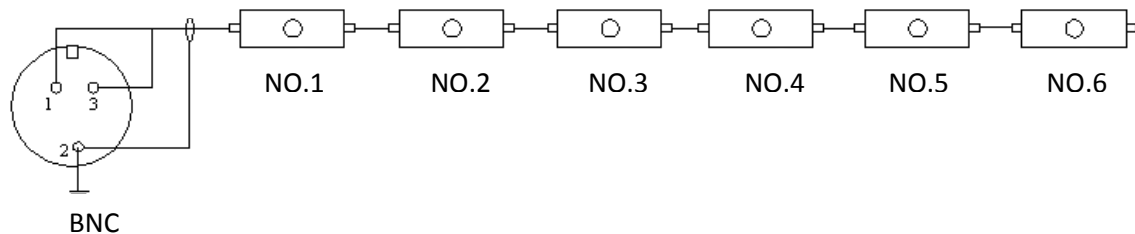

Figure 5a: connecting diagram of spark detectors
2) Since the signal is transmitted via the power carrier, the connection between the detectors can adopt to the practical situation flexibly. Figure 5a and 5b show such typical connections. The connection principal is that the shorter the distance between the host machine and the detector is, the better the connection is. And each detector can work once offered the DC24V by the host machine.